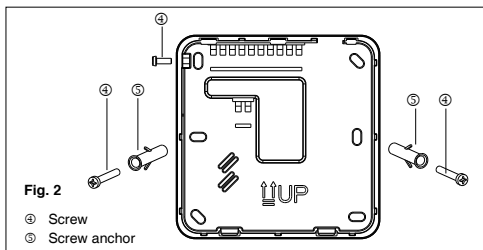
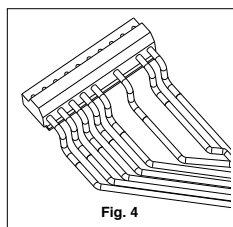

Fig. 2
Fig. 4
- Remove the locking screw in the upper left side to separate the unit from the control (Fig. 2). Secure the unit on the wall and mark the drill holes.
- Carry out the connections to the control connectors (Fig. 4).
- Fix the control to the wall using the corresponding screw anchors ⑩.
- Put the control cover back to its place by reinstalling the screw previously removed (Fig. 2).